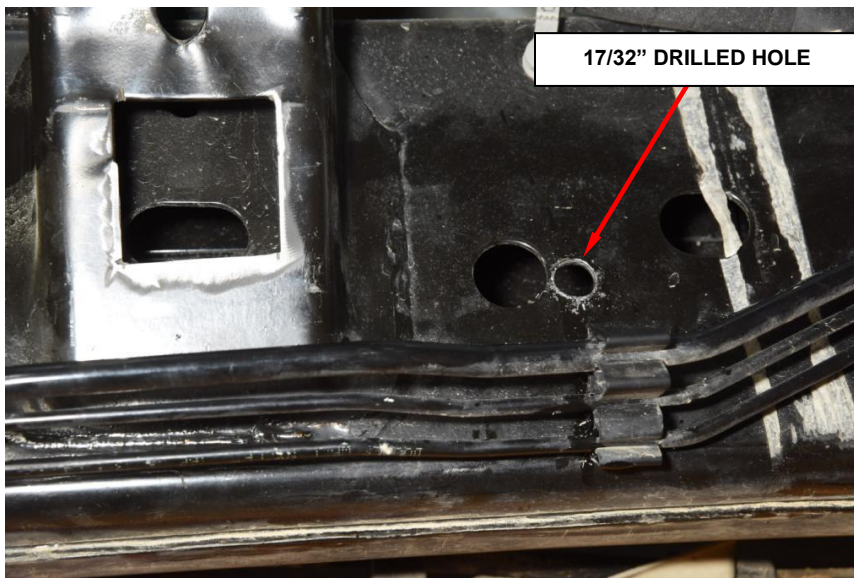

Figure 18 – Drilled Hole
43. Using a 1/4” (6mm) drill bit, drill thru the center of the marked hole and follow with a 17/32” (13 mm) drill bit to the correct hole size (Figure 18).